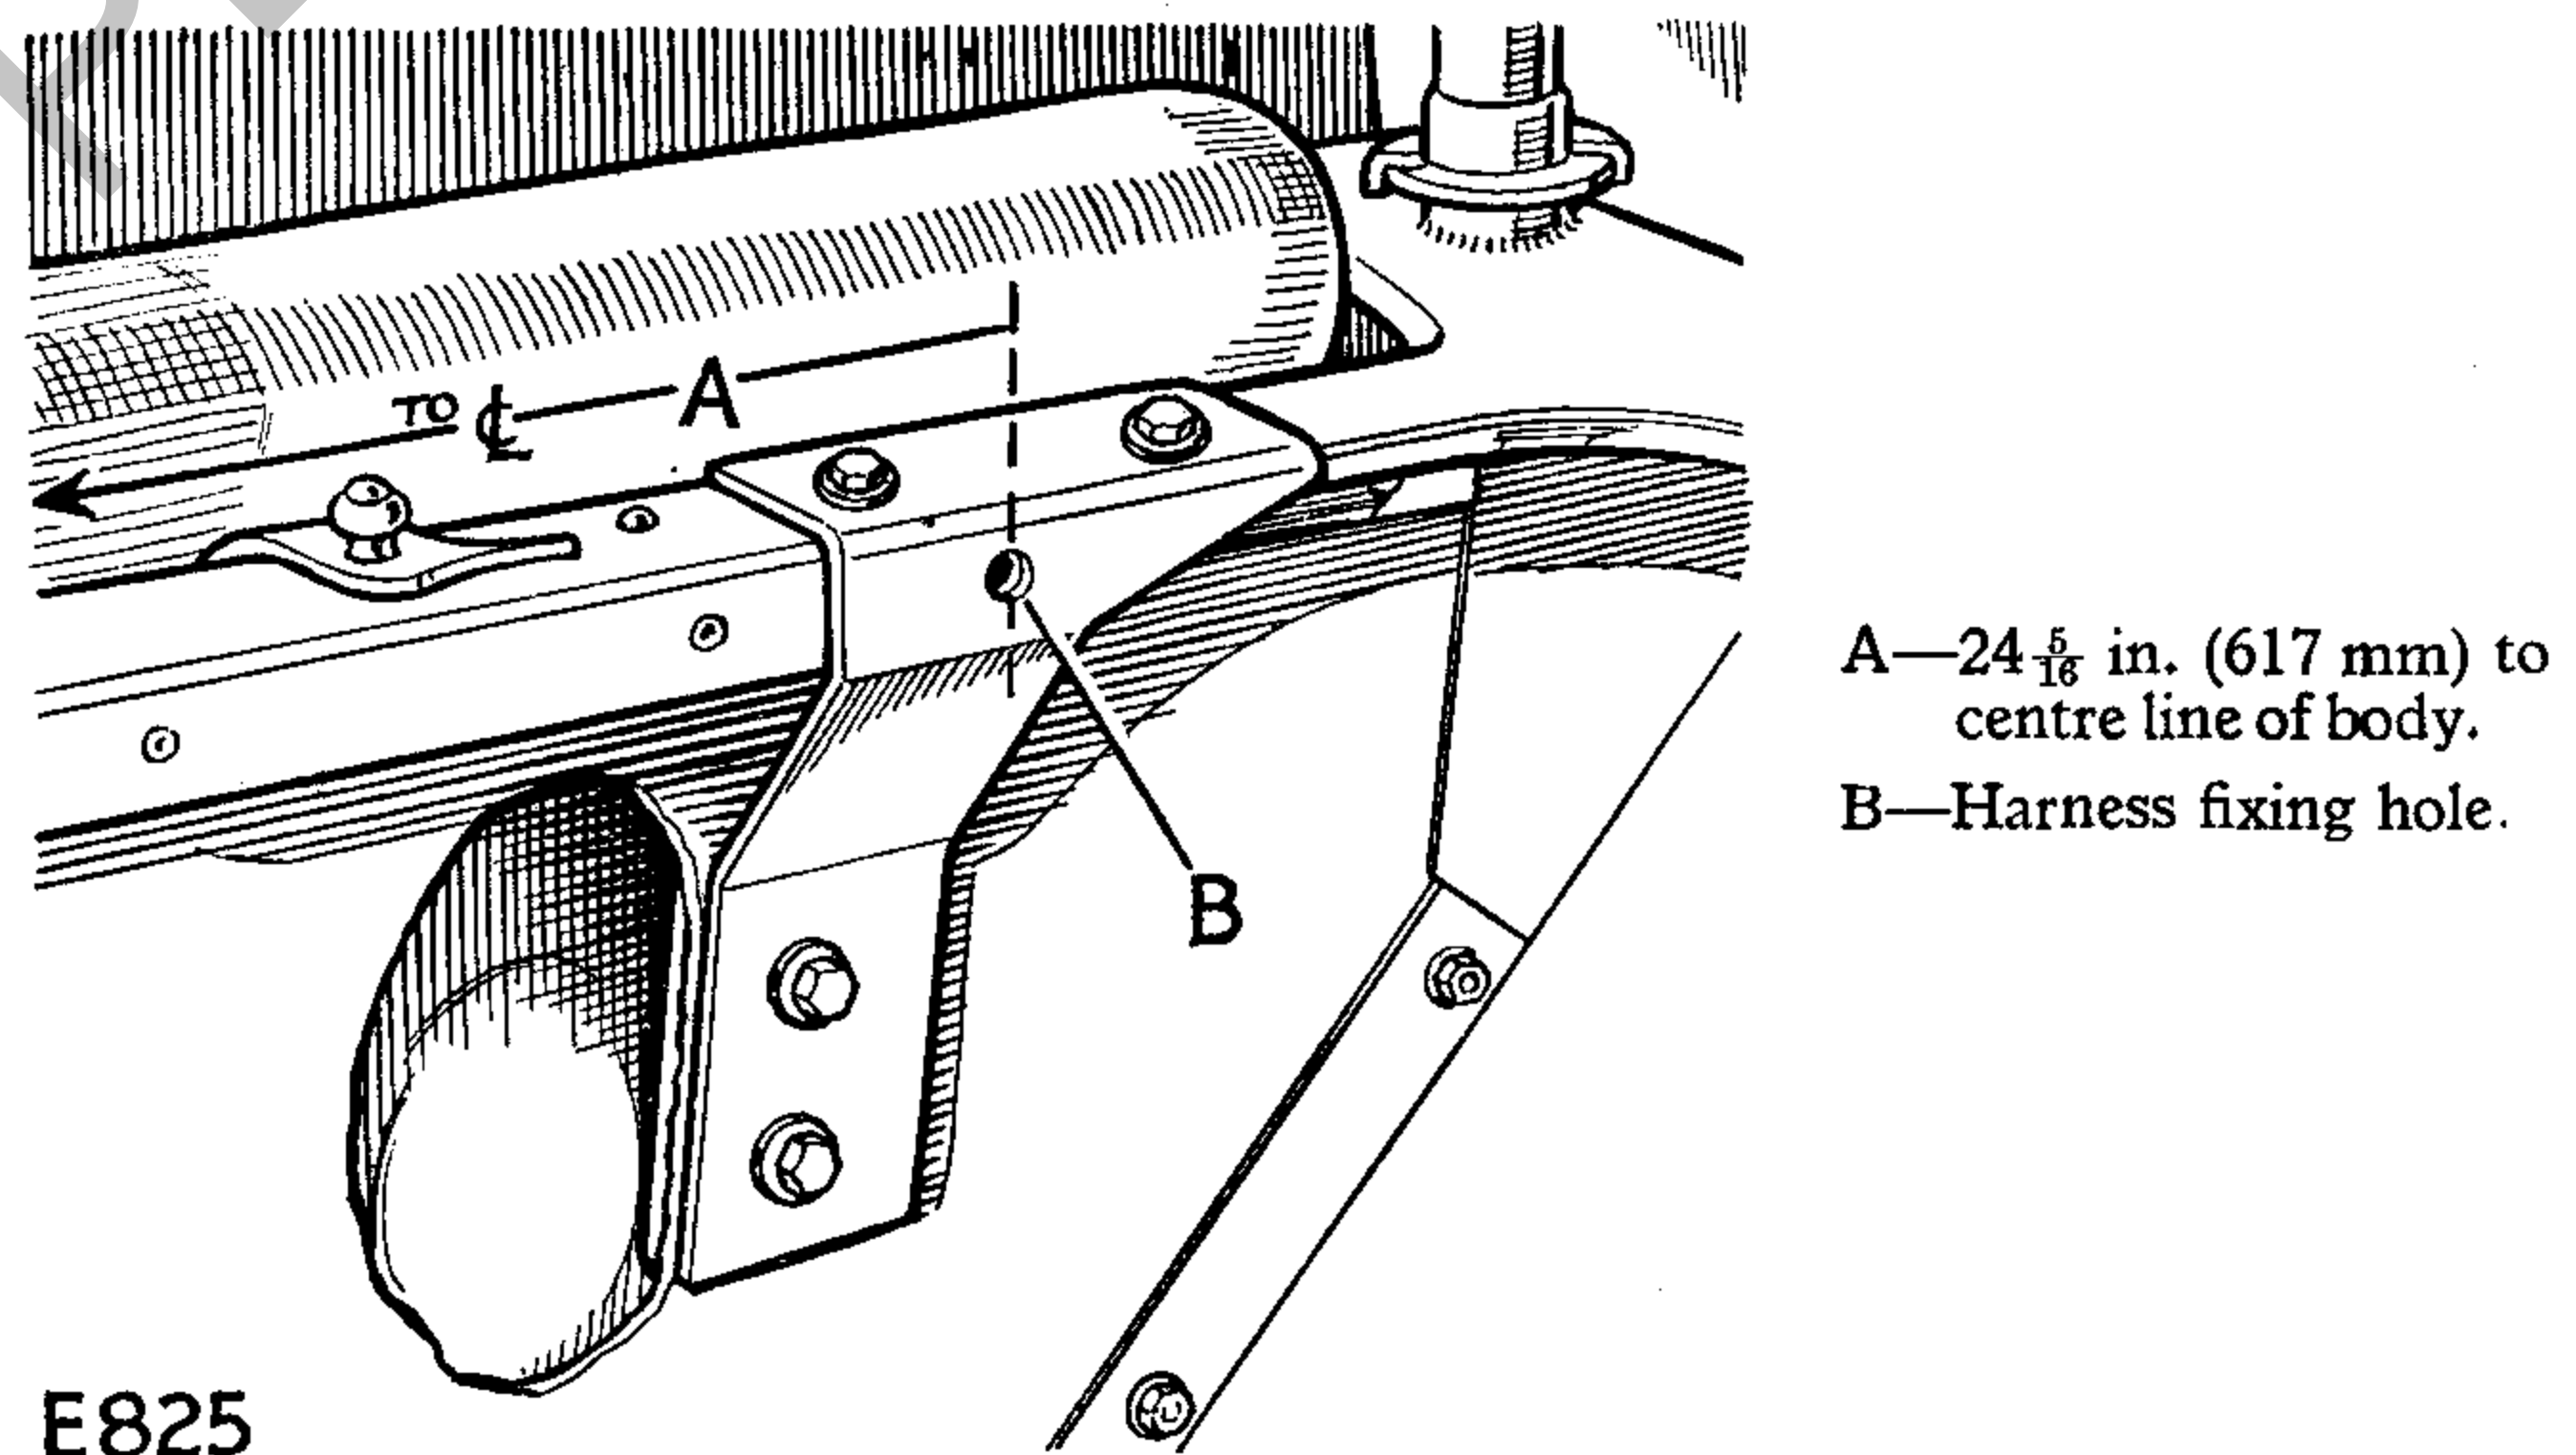

Fig. 3. Shoulder bracket in position.
9. On the seat bulkhead top capping, mark off a centre position of vehicle—then mark off a position outboard $24\frac{5}{16}$ in. (617 mm) as shown in Fig. 3.